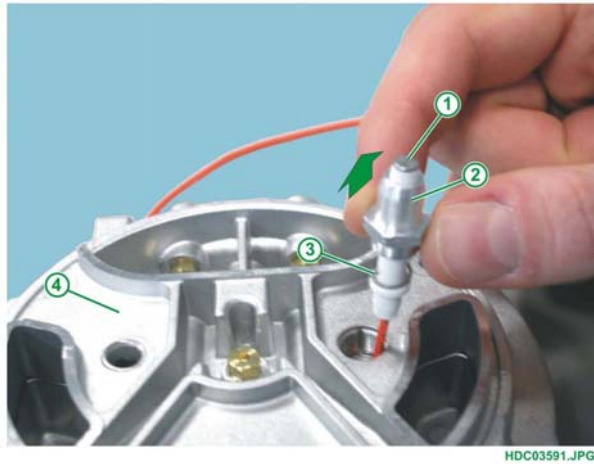

Fig. 39
2. Remove the nut and spring (see Fig. 39).